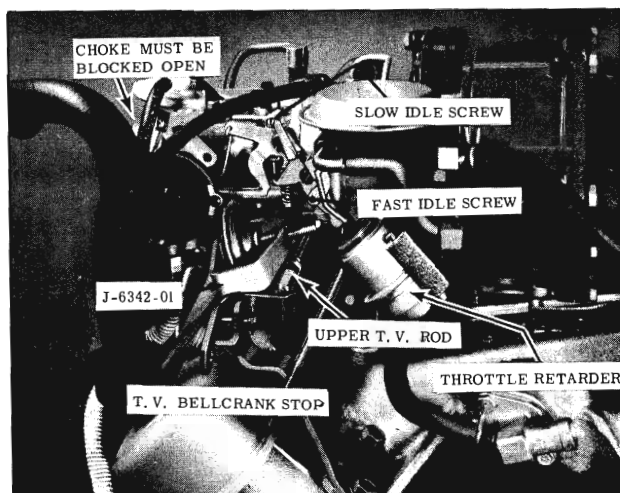

Fig. 3-331 Throttle Return Check Holding Tool
6. Install throttle return check Tool J-6342-01 and back out slow idle screw. Fast idle screw should not contact cam, if necessary insert a screwdriver into the carburetor bore to block open the choke valve. (Fig. 3-331)